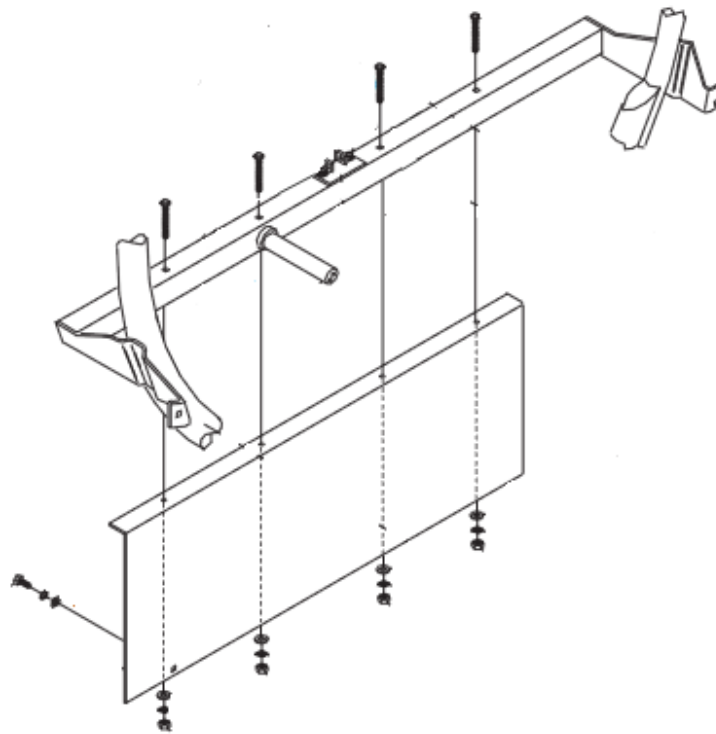

Figure 1
6. Remove all hardware mounting lower elevator guard and remove guard. *See figure 1*
- ✔ Clean, inspect and apply a thin film of oil to the guide roller hardware. See figure 1.